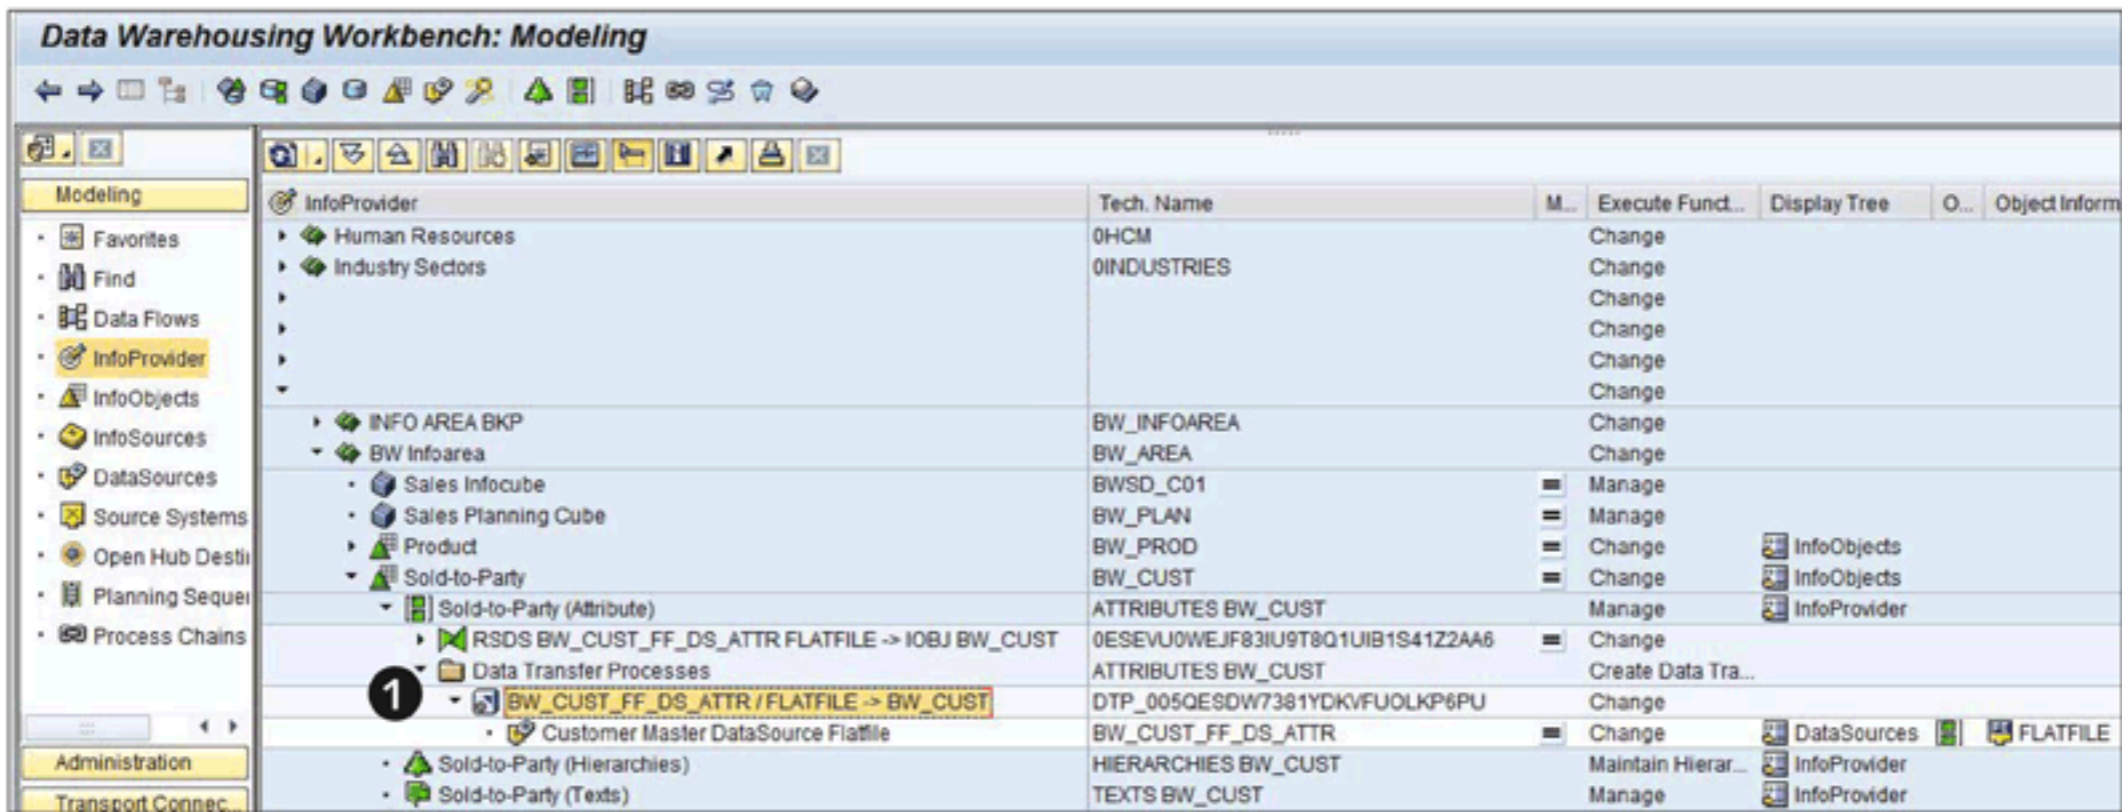

Figure 7.29 Newly Created DTP
Package for our BW_CUST_FF_DS_ATTR DataSource; we discuss this process next.) Using the BACK icon, return to the DWW main screen. You can now see that the DTP created between DataSource BW_CUST_FF_DS_ATTR and data target BW_CUST (attribute) is available (❶ of Figure 7.29).